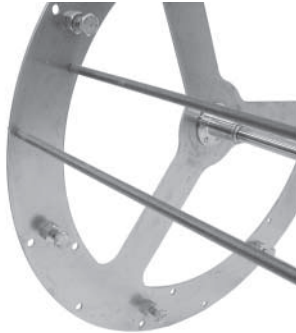

Fig. 26
1. Place pointed ends of fork spit into appropriate holes on the non-drive side of the rotor (Fig. 26).